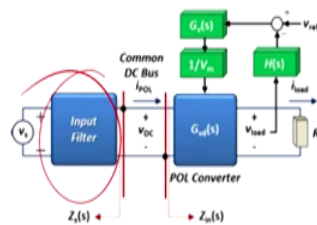

Fig.1 Switching voltage regulator system supplied by source through a filter.
- Fig. 1 shows a common dc bus realized by means of a power supply unit with a line filter to which a point of load (POL) buck converter supplying a resistive load is connected.
And so, dynamics of the DC power supply this is the figure 1 where it is consisting of the input filter. Why input filter is given because you know you talk about your MPPT, solar MPPT. In solar panel you are taking power all of a sudden if you are breaking circuit then you are making your current 0. So, this is not allowed and thus you will be huge shift of the PV curve in the IVPB curve of the Solar Panel. So, you are operating here you are supposed operating here.
And all of sudden you will switch it off what happened this is I in this is V moving this to this point. And that it is not allowed again your turn from this point to this point is not possible. And for this is reason you required to put an input filter I am coming to this point litter later. So, this figure 1 shows the common bus was realized by means of the power of supply unit with the line filter which is a point of the load or an abbreviation we shall use it POL buck converter supplying the resistive load and disconnected like this in the figure has been shown.
- Considering the voltage regulated POL converter shown in Fig.1, $T(s)$ can be represented as